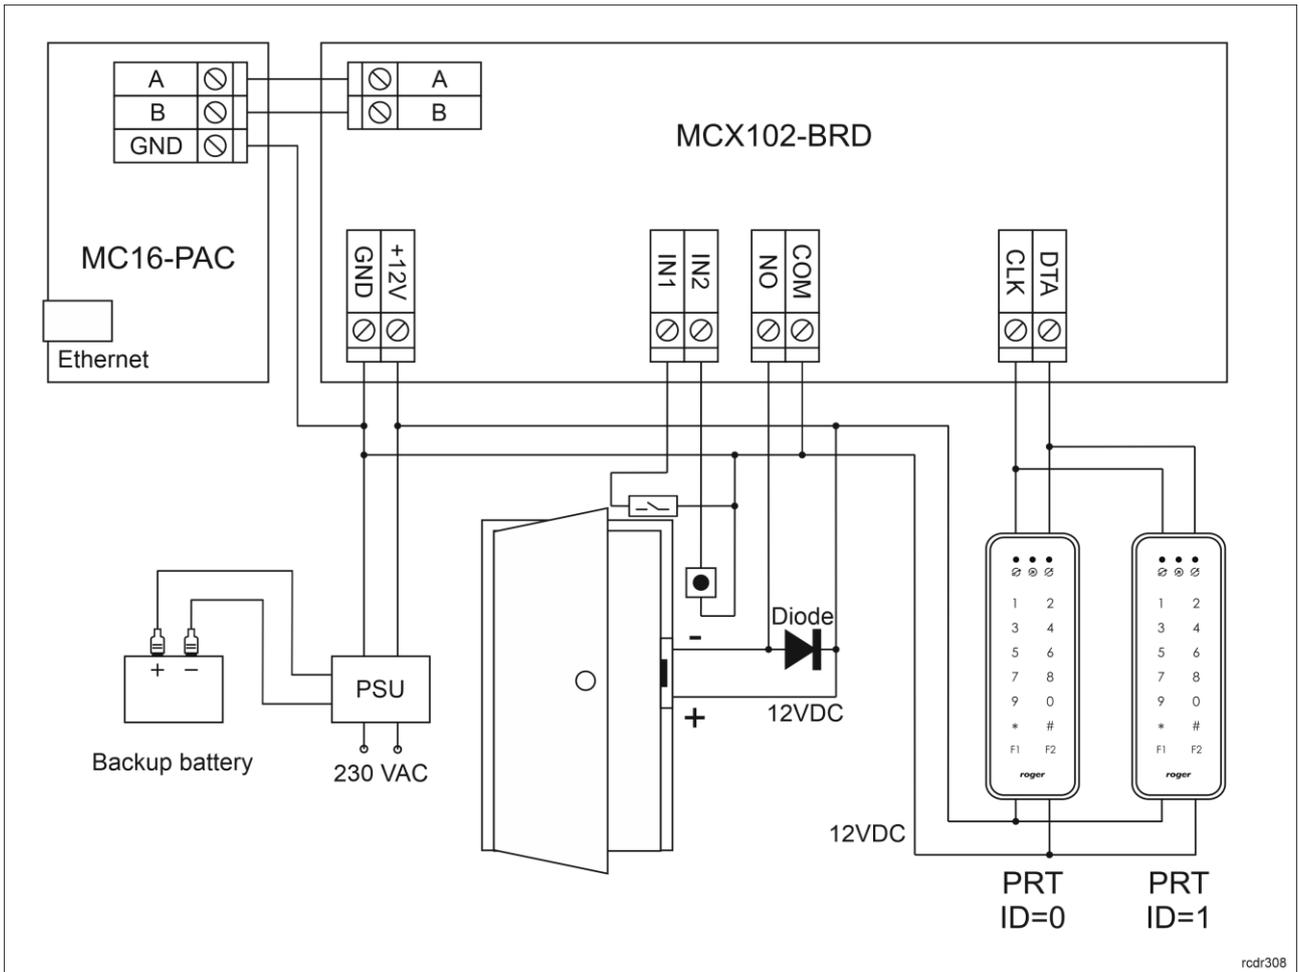

Fig. 4 Typical door control with PRT series readers
4. Enter unoccupied RS485 address in range of 100-115, enable Wiegand or PRT terminals, configure input types (e.g. NC for IN1 according to fig. 4) and other settings according to requirements of specific installation.